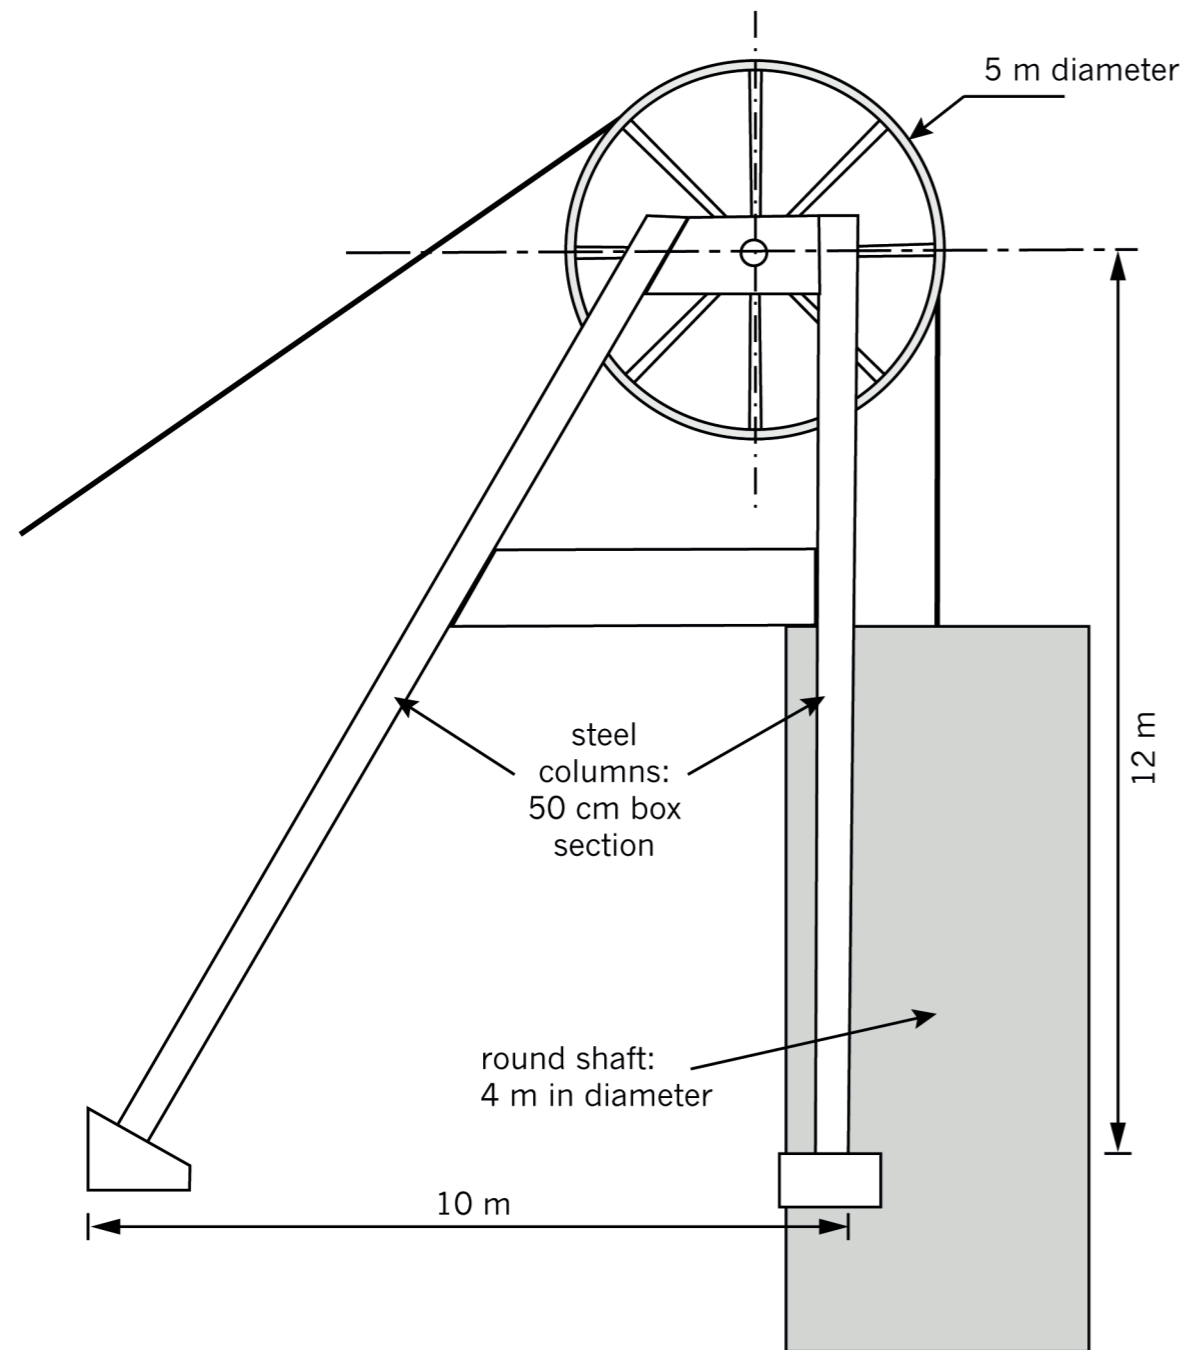

Figure 5: A working drawing of a head frame
Look at Figure 5. It is an example of a working drawing for a small head frame design.
1. Draw your team's design of a head frame on squared grid paper. Use Figure 5 to help you. Show all the dimensions for the main parts of your head frame design.
Figure 5 repeated